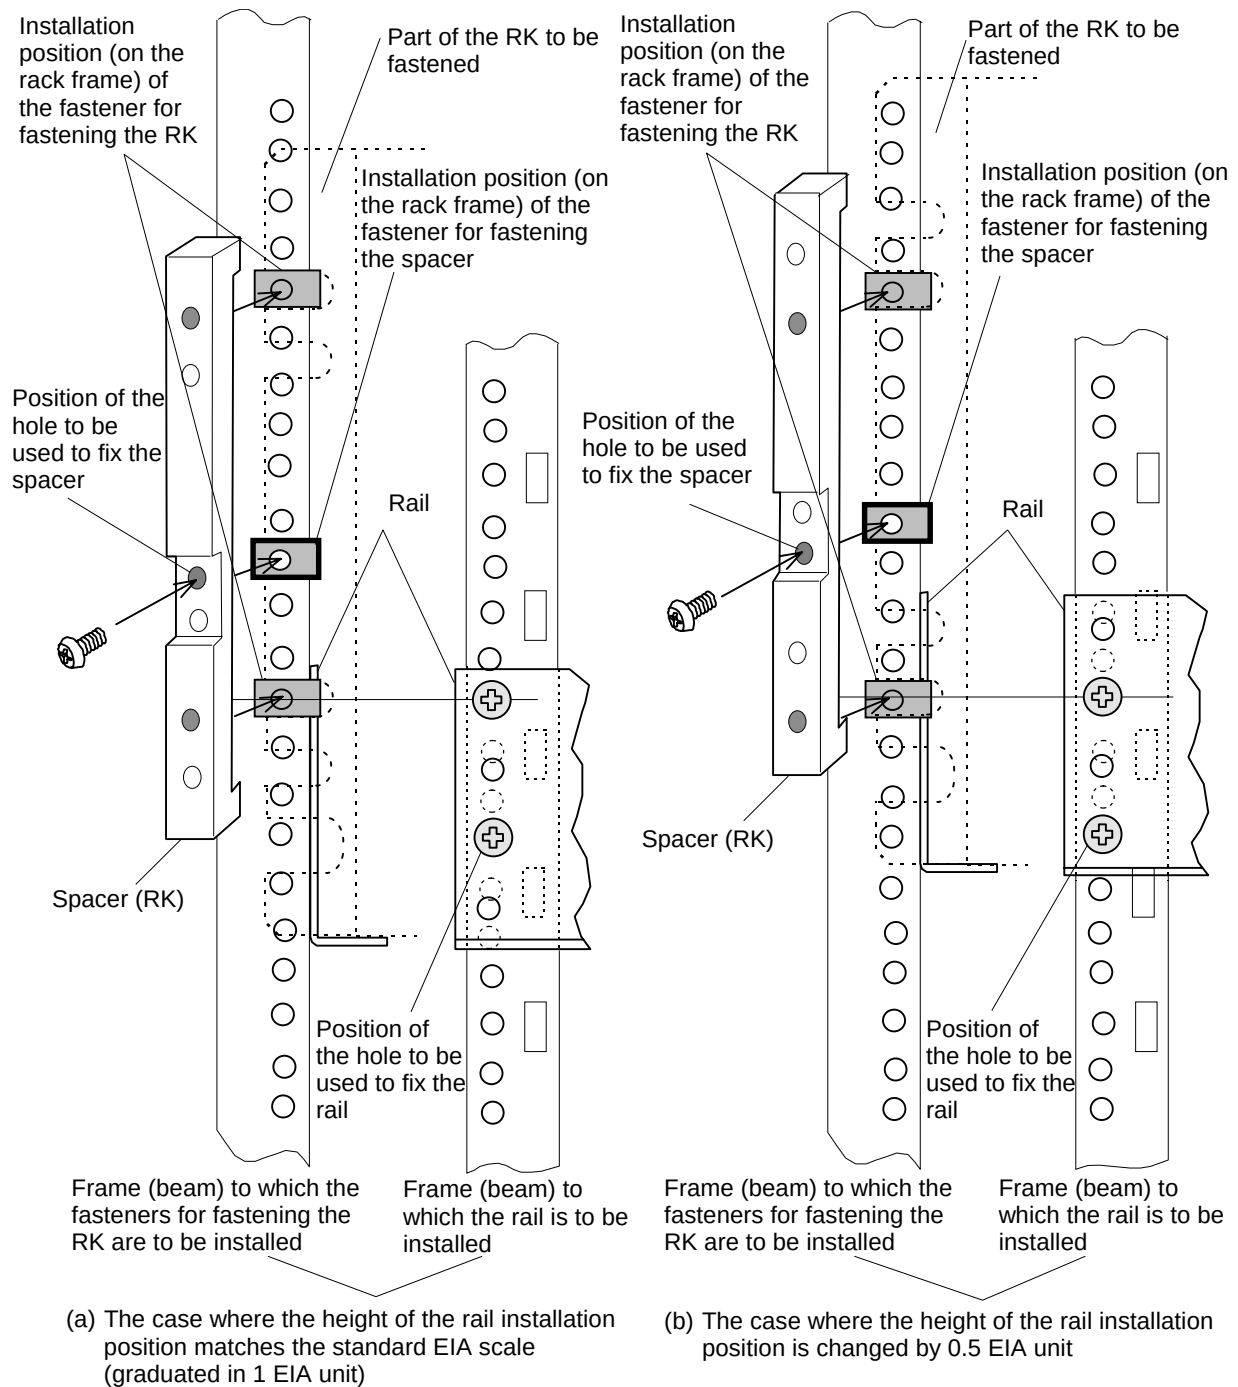

**Figure 4.3.6 Installation Positions of Fasteners and Relation with Rails
Install the fasteners and spacers on the front side of the rack frame in order to fasten the RK/RKA to be mounted on the rack frame. (Refer to Figure 4.3.6 and 4.3.7)
- Fit the three fasteners to each of the right and left beams on the front side of the rack frame referring to Figures 4.3.6 and 4.3.7.
- Fix the spacer with binding screws (M5×32) at the position specified by the fasteners referring to Figures 4.3.6 and 4.3.7. The spacers for the RK and for the RKA are different from each other. Install the spacer which suits the subsystem to be mounted.